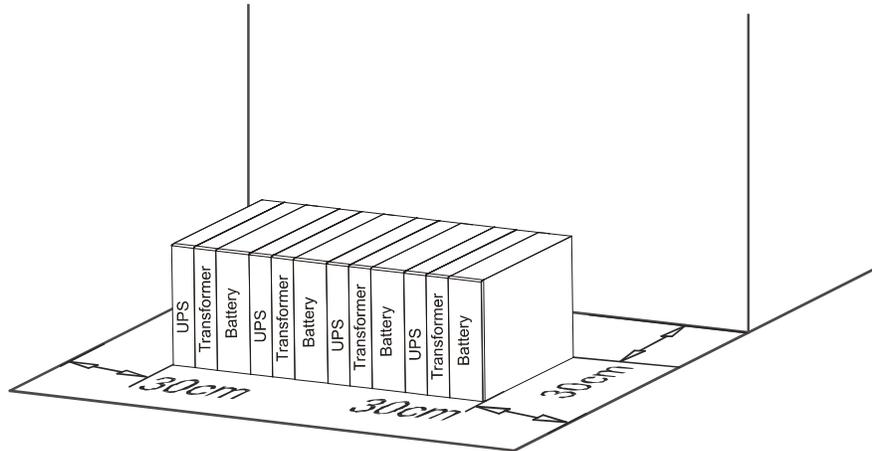

Figure 1 Installation position
1. Position the units as shown in Figure 1.
3. Arrange the power cables and the control signal cables as indicated in Figure 1 and Figure 2 depending on the UPS type. Ensure all the circuit breakers at input and output ends are set to OFF position.